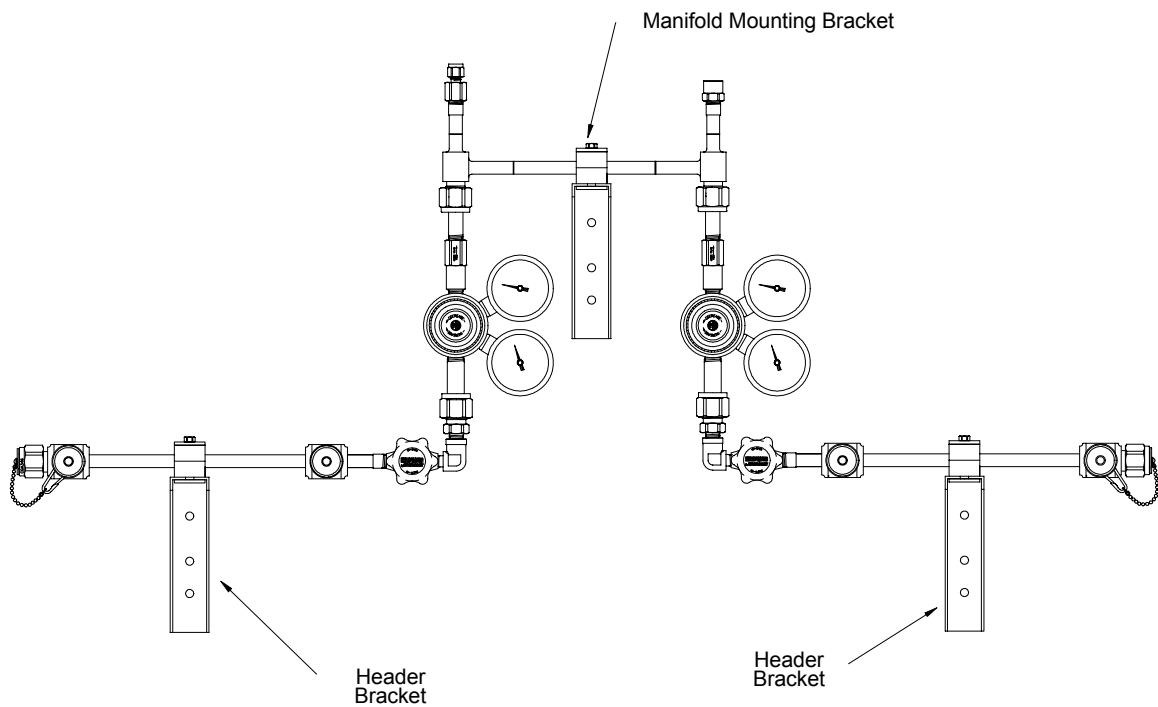

FIGURE 5
5. Mount the manifold by placing the "H" section of the manifold in the clamp. Fit the clamp over the "H" section and tighten the mounting bolts. (Figure 5)
6. Using a level, mark the placement of mounting brackets while keeping the header on a horizontal plane. (Figure 5)